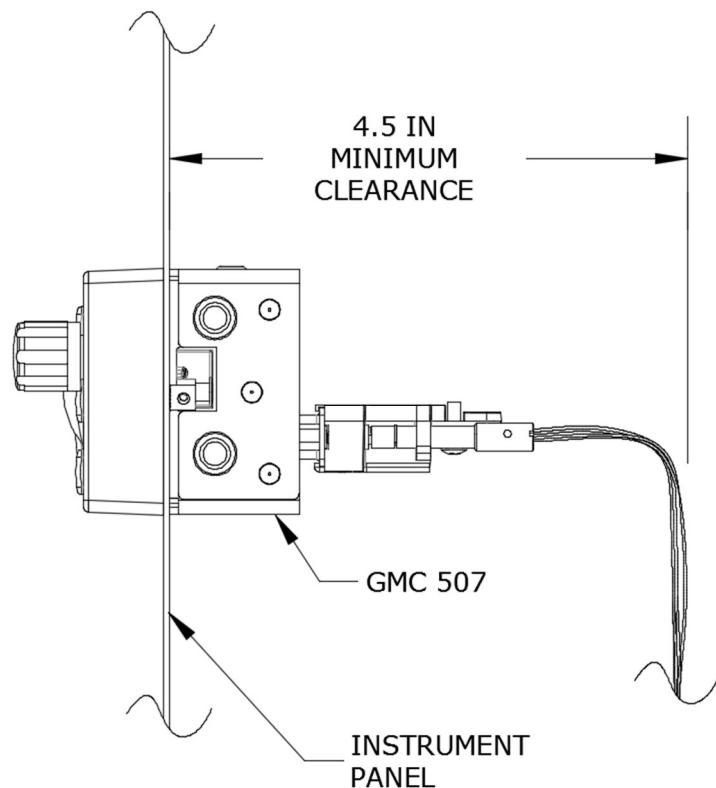

Figure 4-16 – Clearance for Connection
6. The location of the cutout must allow for sufficient clearance for the GMC 507 wiring, see Figure 4-16.